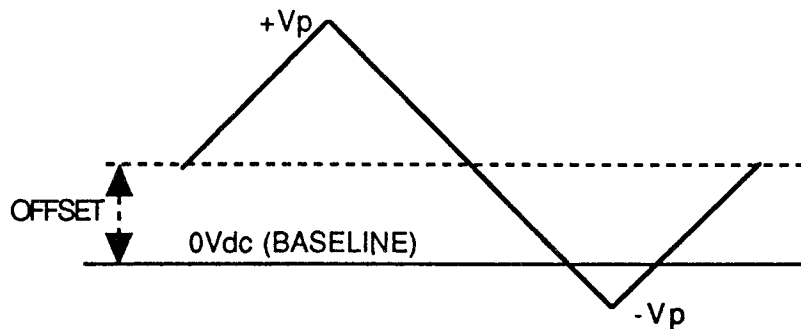

Figure 3-9. Offset Waveform Example
5. **Set up the Offset.** Use the OFFSET key (7) to display the dc offset level. Offset is the waveform reference level relative to 0Vdc; see figure 3-9. Use the keypad (39) or the knob (41), if enabled (ENABLE indicator (40) lit), to change the offset. The knob increments or decrements the value starting from the flashing digit (Knob key (39)) and automatically enters the new value. When using the keypad, enter values as actual number (.01) or exponential notation (10 E -3), press the ENTER key to accept the new value. Offset values range from +7.500V to -7.500V.